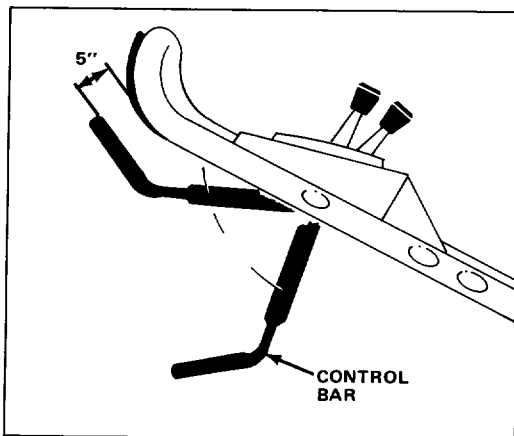

Figure 28
3. Lift the control bar to the normal "blade engaged" position, about 2" below the handle (Fig. 28). The "fan" noise and bag inflation indicate that the mower blade is engaged and rotating.
6. Push the control bar down to its lowest position, latching the mechanism (Fig. 28).
dle). This indicates that the mower blade is engaged and has begun to rotate (Fig. 28).